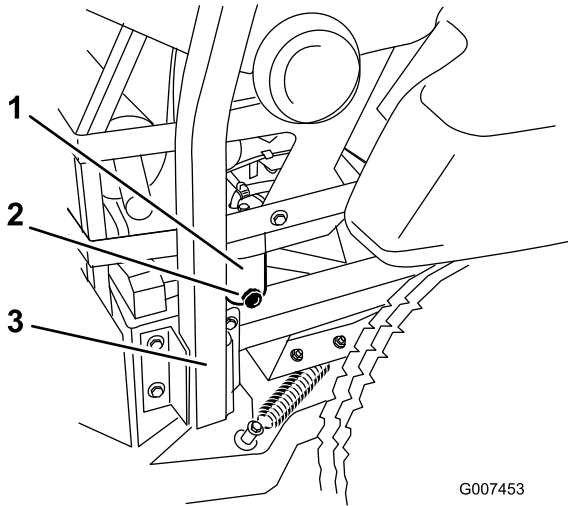

Figure 9
2. Open the water separator drain valve until fuel starts to drain out and close the valve (Figure 9).